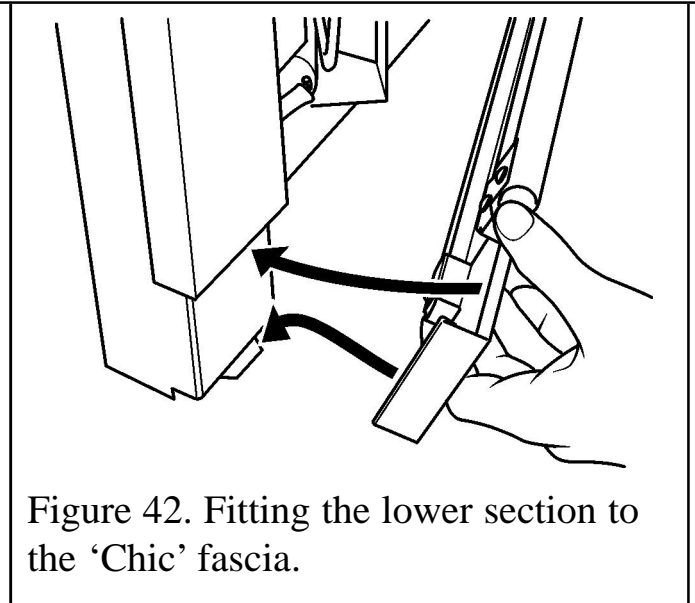

Figure 42. Fitting the lower section to the 'Chic' fascia.
5. The lower section of the fascia is secured with magnets. Locate it as in figure 42. The bottom of the lower section should sit on the tags as shown.